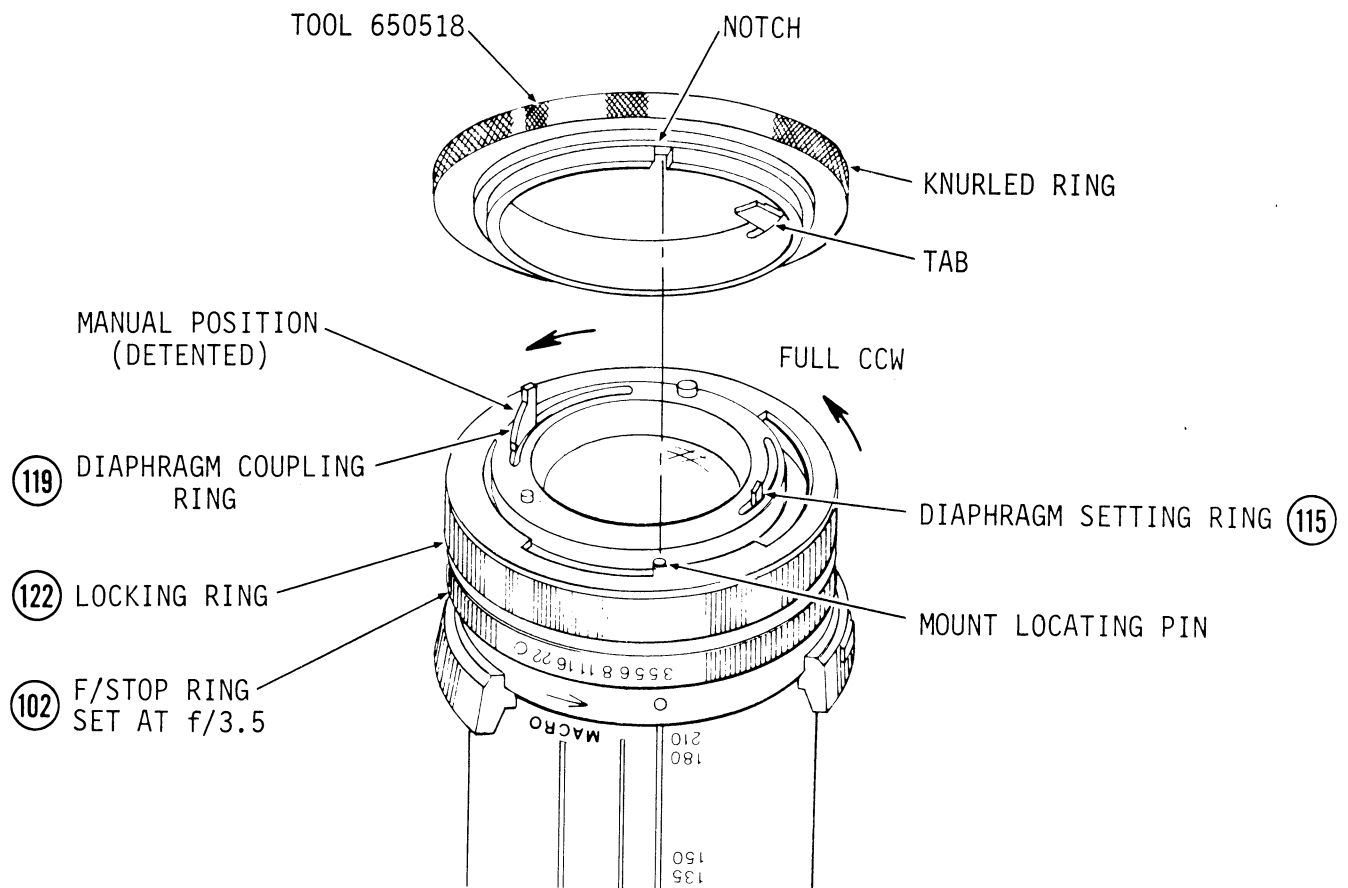

Fig. 73
13.4.1.3 Set F/Stop Ring (102) to f/3.5. (Fig. 73)
13.4.2 Place Tool 650518 on Canon Mount so that Notch in tool sets down over Locating Pin of Mount. (Fig. 73)